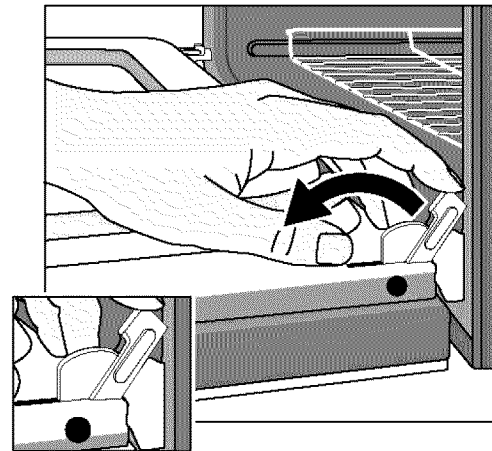

Fig. 2
2. Unlock both oven door hinge locks by pulling them up and away from the oven frame until they stop (unlocked position) -*Figs. 2*-. If needed use a small flat-bladed screwdriver to assist with loosening the door hinge locks.